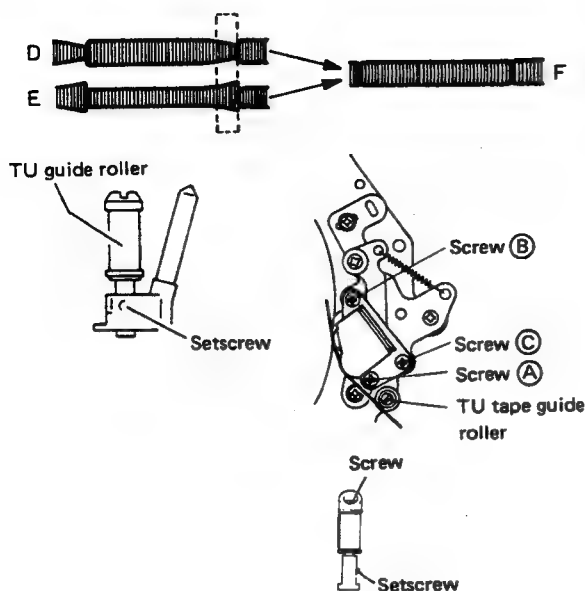
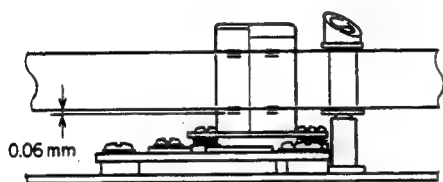

Fig. 2-45 Drum output adjustment
Fig. 2-46 A/C head height
6. If the waveform appears as shown by D or E of Fig. 2-45, adjust the take-up guide roller height to obtain a linear waveform as shown by F.
8. Confirm that the A/C head assembly height with respect to the tape and transport is as shown in Fig. 2-46. If necessary, adjust by turning screws (A), (B) and (C) by equal amounts. Fig. 2-45.